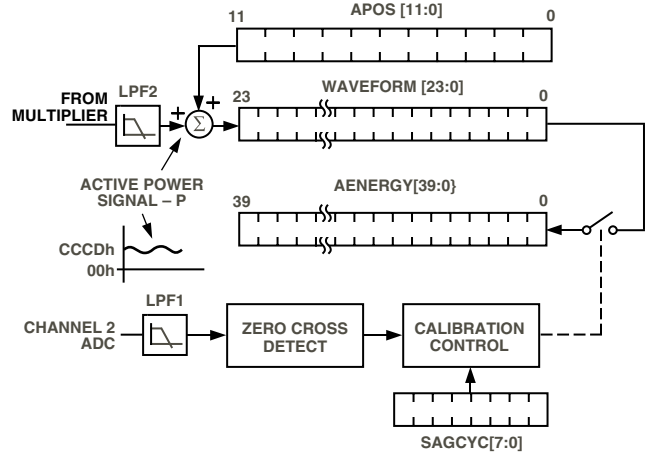

Figure 34. Energy Calculation in Calibration Mode
As mentioned in the last section, the discrete time sample period (T) for the accumulation register is $1.1 \mu s$ ($4/CLKIN$). With full-scale sinusoidal signals on the analog inputs and the Active Power Gain register set to 000h, the average word value from LPF2 is CCDDh—see Figure 34. The maximum value that can be stored in the Active Energy register before it overflows is 2^{39} or 7F, FFFF, FFFFh. Therefore the integration time under these conditions is calculated as follows:
By using the on-chip zero-crossing detection on Channel 2 the energy calibration can be greatly simplified and the time required to calibrate the meter can be significantly reduced. To use the zero-cross detection the ADE7756 is placed in calibration mode by setting Bit 7 (CMODE) in the Mode register. In Calibration Mode the ADE7756 accumulates the Active Power signal in the Active Energy register for an integral number of half cycles, as shown in Figure 34. The number of half-line cycles is specified in the SAGCYC register. The ADE7756 can accumulate Active Power for up to 255 half-cycles. Because the Active Power is integrated on an integral number of line cycles, the sinusoidal component is reduced to zero. This eliminates any ripple in the energy calculation. Energy is calculated more accurately and in a shorter time because integration period can be shortened. At the end of an energy calibration cycle the SAG flag in the Interrupt Status register is set; this will cause the SAG output to go active low. If the SAG enable bit in the Interrupt Enable register is enabled, the $\overline{\text{IRQ}}$ output will also go active low. Thus the $\overline{\text{IRQ}}$ line can be used to signal the end of a calibration also. Another calibration cycle will start as long as the CMODE bit in the Mode register is set. Note that the result of the first calibration is invalid and must be ignored. The result of all subsequent calibration cycles is correct.